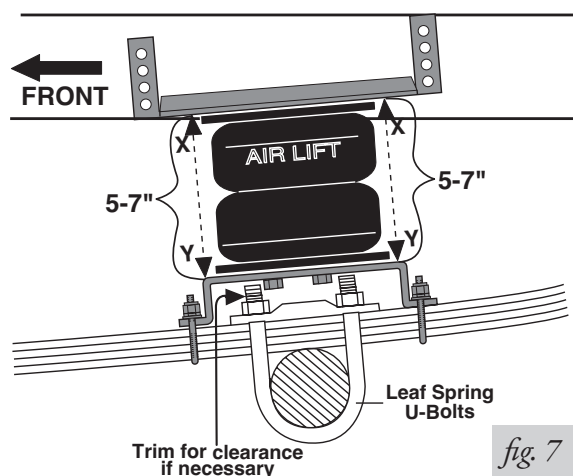

fig. 7
Some vehicles may require the leaf spring U-bolts to be trimmed to allow the bottom bracket to fit properly (Fig. 7).
1. Align the assembly vertically and horizontally (Fig. 7). There must be sufficient clearance between the air springs, the frame, and the tire and brake drum at the maximum inflated diameter (7.0"). Tighten the upper bracket and mounting bolts for the air spring to 20 lb.-ft.